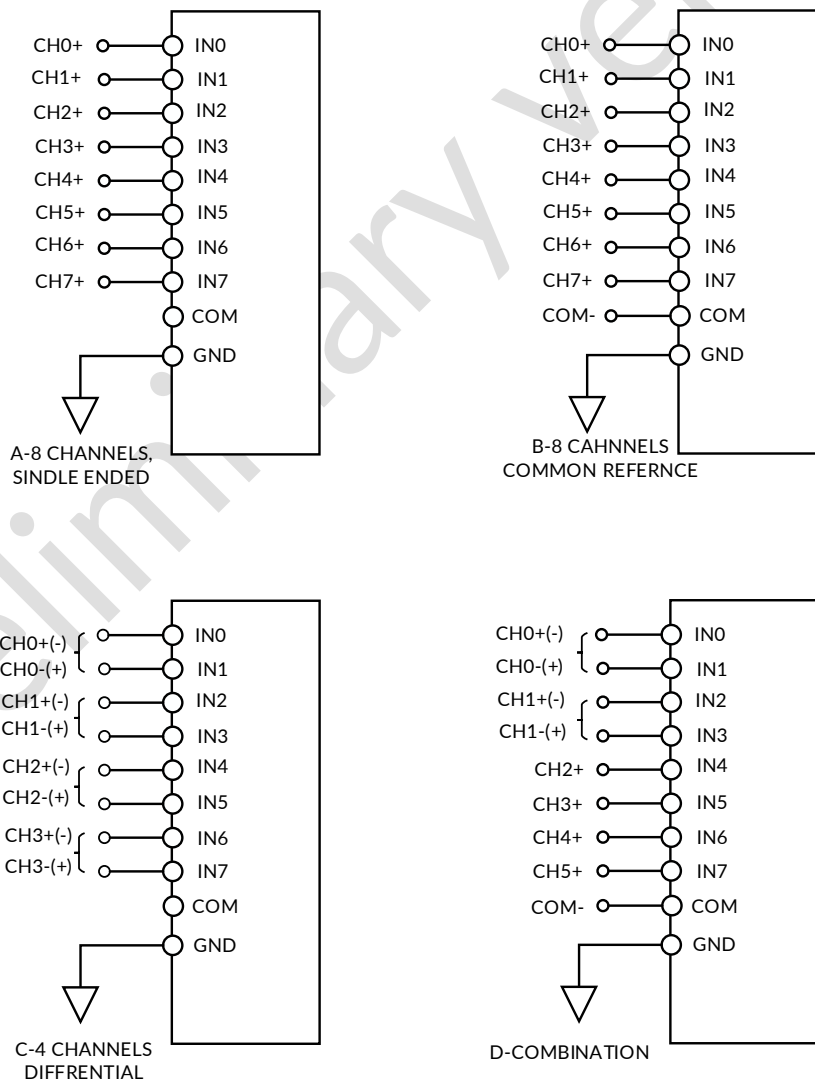

Figure 31. Multiplexed Analog Input Configurations
Figure 31 shows the different methods for configuring the analog inputs with the configuration register, CFG[12:10]. Refer to the Configuration Register, CFG section for more details.
- Configuration A in Figure 31: single-ended referenced to system ground, CFG[12:10] = 111₂.
- Configuration B in Figure 31: bipolar differential with a common reference point, COM = $V_{REF}/2$, CFG[12:10] = 010₂. Unipolar differential with COM connected to a ground sense; CFG[12:10] = 110₂.
- Configuration C in Figure 31: bipolar differential pairs with IN_x- referenced to $V_{REF}/2$; CFG[12:10] = 00X₂. Unipolar differential pairs with IN_x- referenced to a ground sense; CFG[12:10] = 10X₂. In this configuration, the IN_x+ is identified by the channel in CFG[9:7]. For example, for IN₀ = IN₁+ and IN₁ = IN₁-, CFG[9:7] = 000₂; for IN₁ = IN₁+ and IN₀ = IN₁-, CFG[9:7] = 001₂.
- Configuration C in Figure 31: inputs configured in any of the above combinations (showing that the RS1488 can be configured dynamically)